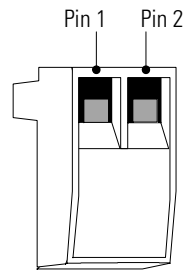

Figure 26. REPO Connector
3. Connect isolated, normally-open, dry contacts (rated at 60 Vdc maximum, 30 Vac RMS maximum, and 20 mA maximum) across the REPO device to Pin 1 and Pin 2 (see Figure 26). Use stranded, non-shielded wiring, size 18–22 AWG (0.75 mm²–0 mm²).